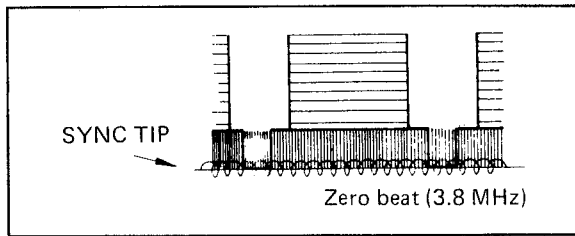

Fig. 6-25 Carrier and deviation adjustment
5. Set the frequency of high-frequency sine-wave generator to 3.8 MHz, and adjust R10 (CARRIER SET) so that the waveform observed at the oscilloscope shows a zero beat at the bottom of the waveform as shown in Fig. 6-25.